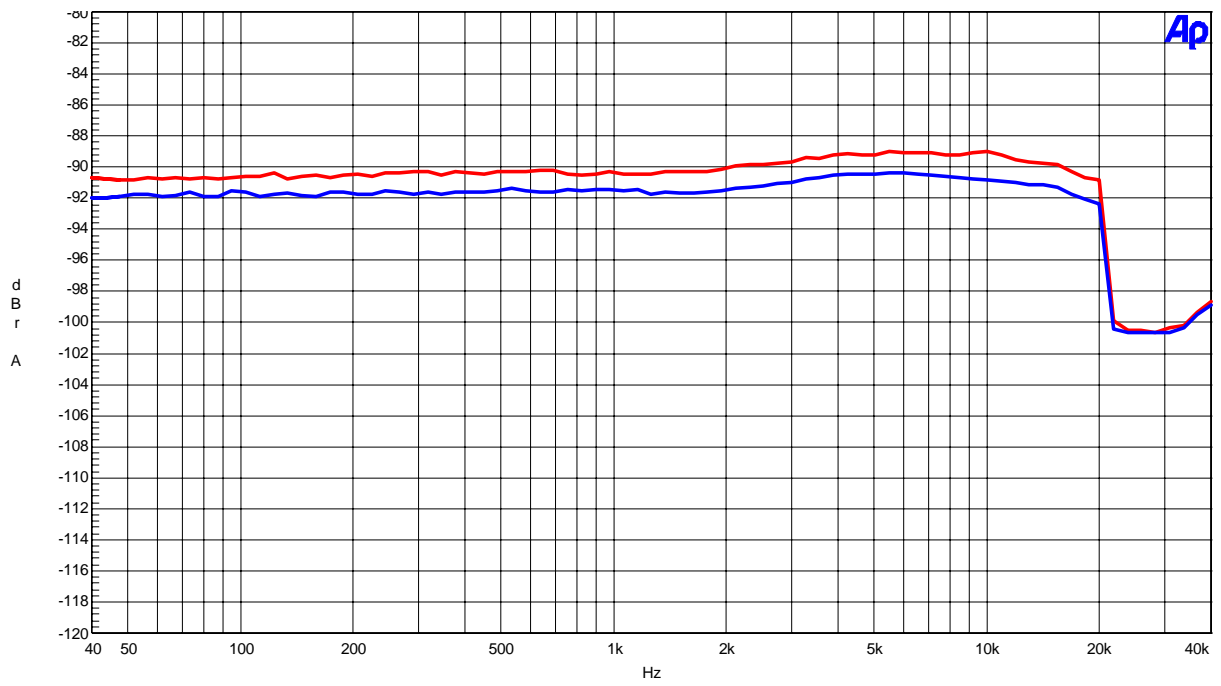

Figure 23. THD+N vs Input Frequency (Input Level=0dBFS)
- Figure 23. THD+N vs f_{in} (Input Level=0dBFS)